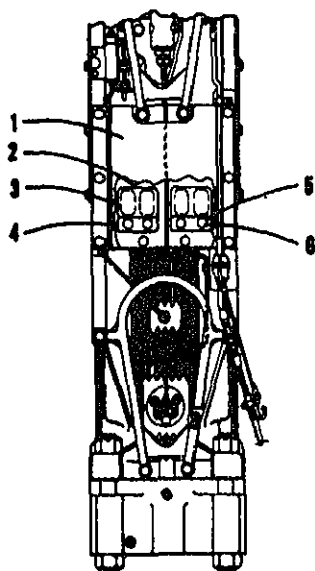

FIG. 11-2
When the ram travels upward after combustion, the intake exhaust port is cleared first. The burned gasses blow out of these ports. The four reed valves, Fig. 11-2, flap shut due to the partial vacuum in the scavenge chamber caused by the rising ram. When scavenge ports are cleared, fresh air is drawn into the lower cylinder, down across the anvil face, and up through the scavenge chamber into the upper cylinder.
- Assemble reeds on air valve plate with retainers, capscrews and lock plates. Refer to Fig. 11-2.